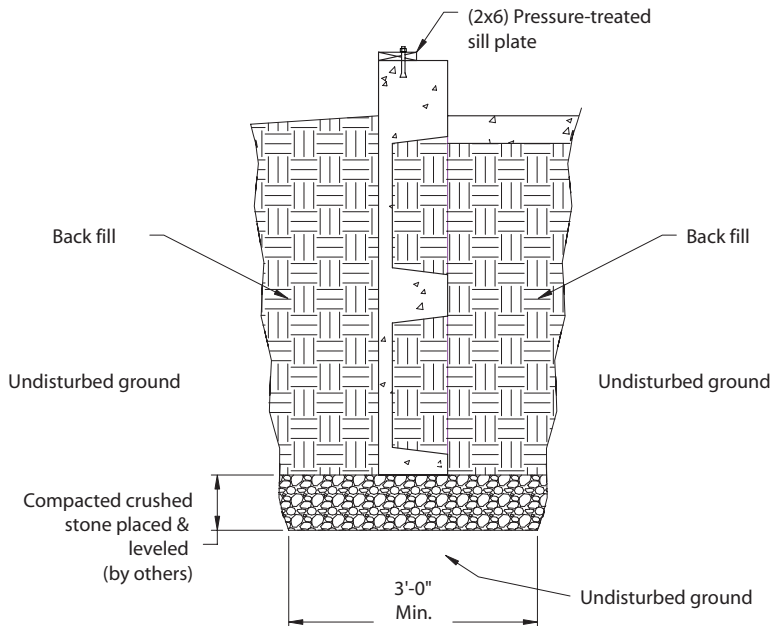

Figure 8
b) Garage Walls (see figure 8, Pg. 12)